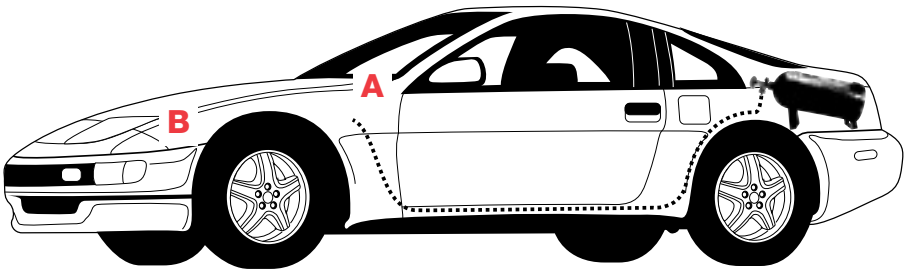

Fig. 3
5mm Nylon Line: The vital route of the nylon nitrous supply line for **best** performance is shown in (Fig. 3), where the pipe runs through the inside of the car alongside the wiring loom and into the skuttle, between the windshield (screen) and engine bay **(A)**, or the front inner fender (wing) or similarly cool area **(B)**.
2. Run the supply pipe as shown in (Fig. 3).